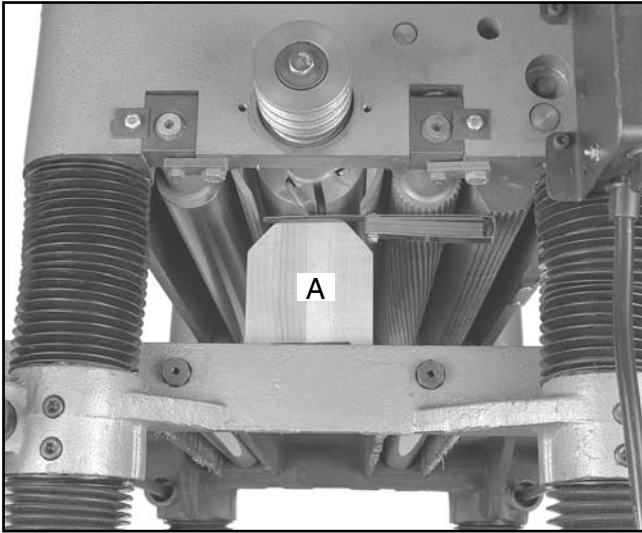

Figure 17. Feeler measures roller adjustment.
5. Place Block "A" under the cutterhead with a .040" feeler gauge above it and raise the table until the block reaches the cutterhead. Center one of the knives at the bottom of the cutterhead as you raise the table. Rock the cutterhead backward and forward as you raise the table and stop when the knife just touches the feeler gauge. **See Figure 17.**